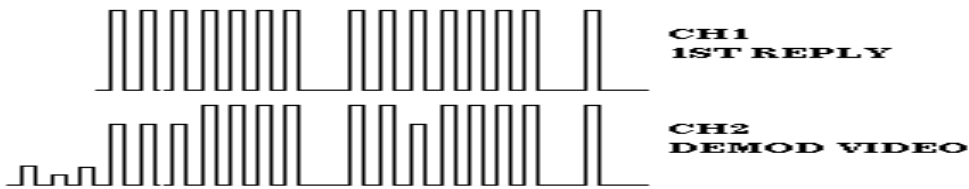

Figure 3. Emergency mode 1 - oscilloscope display
(3) Set TI **REFERENCE CODE** pushbuttons and radar test set **REPLIES SIF CODE** in turn to settings listed in table 3, and observe the correct **ACCEPT** or **REJECT** indications as listed.
(4) Set radar test set menu 3 - **M1** through **MC REPLY CODES** to **7700**, **SIF2** to **OFF**; menu 11 - **1ST REPLY** to **ON**, **2ND REPLY** to **OFF**; and menu 14 - **0 TRIGGER** to **INTERNAL**.
(5) On radar test set, connect oscilloscope **CH1** to **1ST REPLY**, **CH2** to **DEMODOUT**.
(6) Set oscilloscope time per div to 10 μ s, and trigger source to **CH2**.
(7) Set TI and radar test set switches to settings listed in table 4, and observe the correct **ACCEPT** or **REJECT** indications as listed. Oscilloscope presentation will be as shown in figures 3 and 4; or **ACCEPT/REJECT** indication may not be valid.